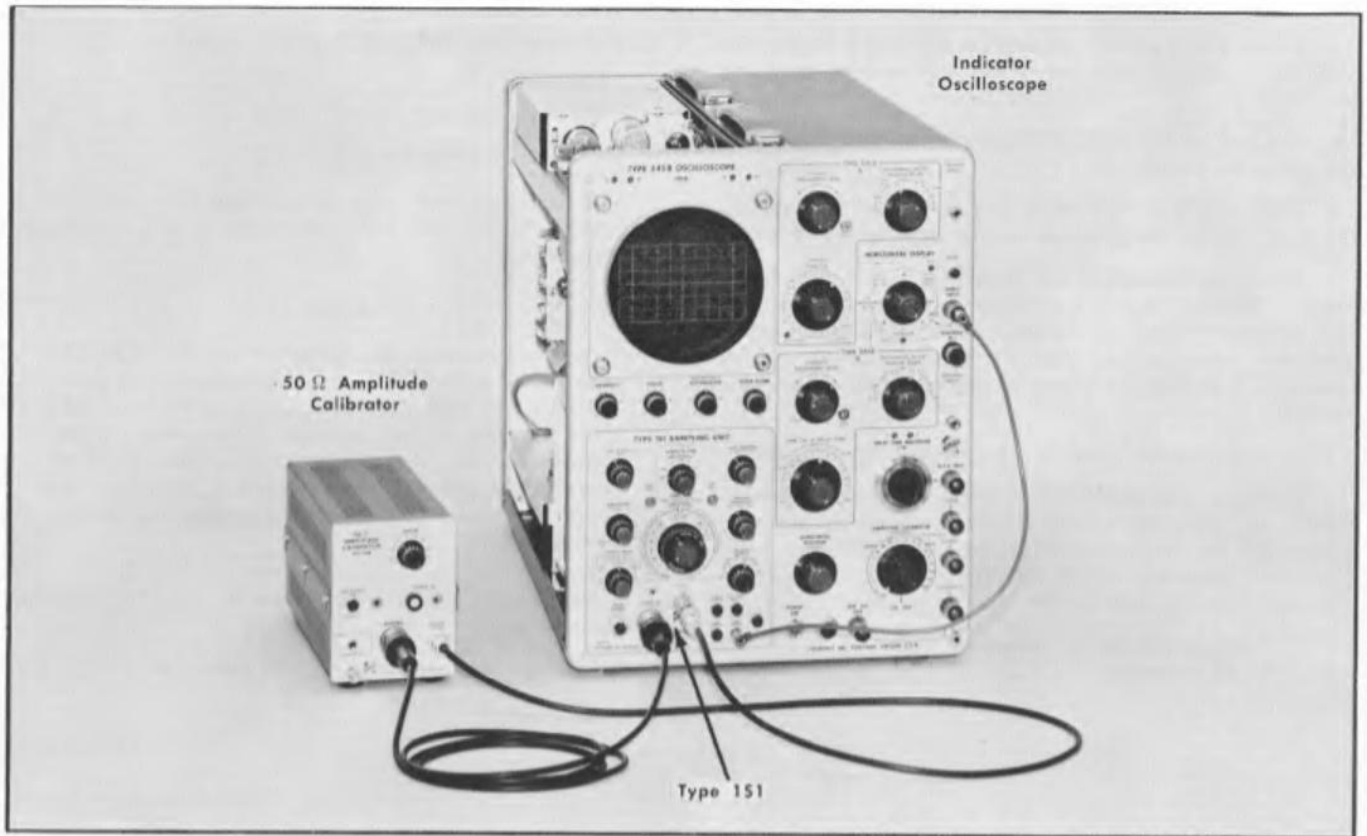

Fig. 5-36 Initial test equipment setup for steps 21 through 23.
- Test equipment setup is shown in Fig. 5-36.
- a. Test equipment setup is shown in Fig. 5-36.